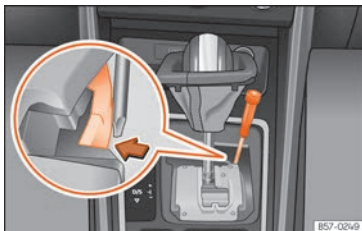

Fig. 54 Selector lever: manual release from position P.
- Using a screwdriver, press and hold the yellow unlocking tab sideways » » » Fig. 54.